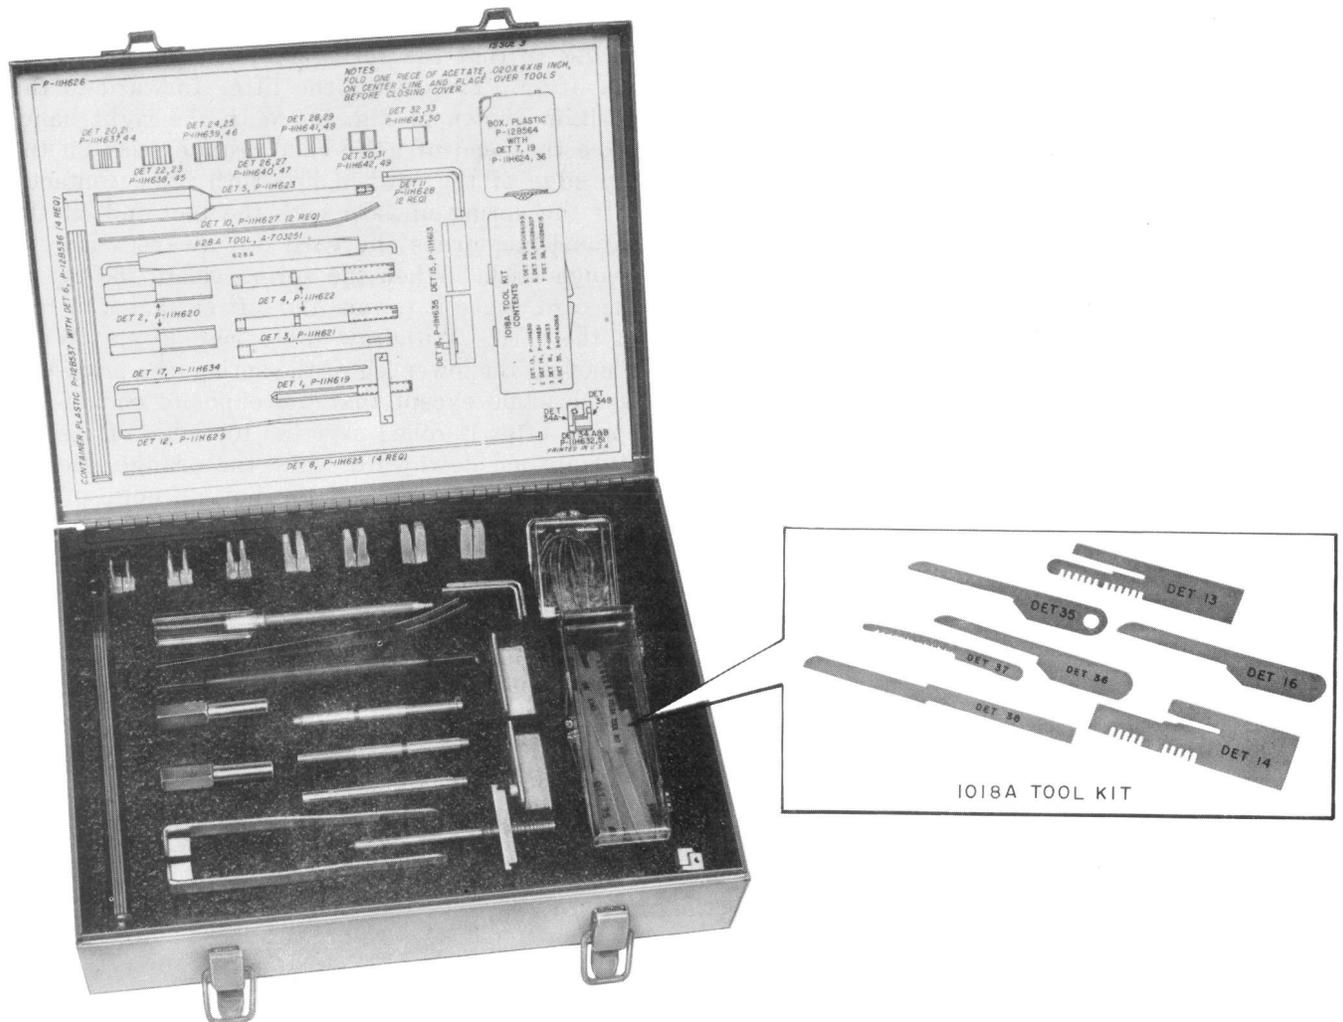

Fig. 3—1017A Tool Kit Including 1018A Tool Kit
3.02 Figure 3 shows the tools comprising the 1017A and 1018A tool kits.